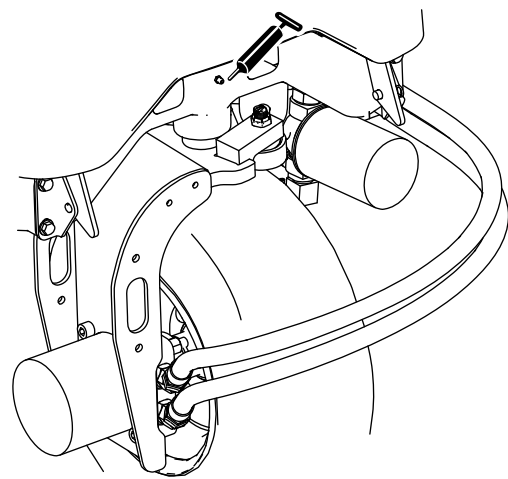

Figure 31
- Pivot de direction (Figure 31)